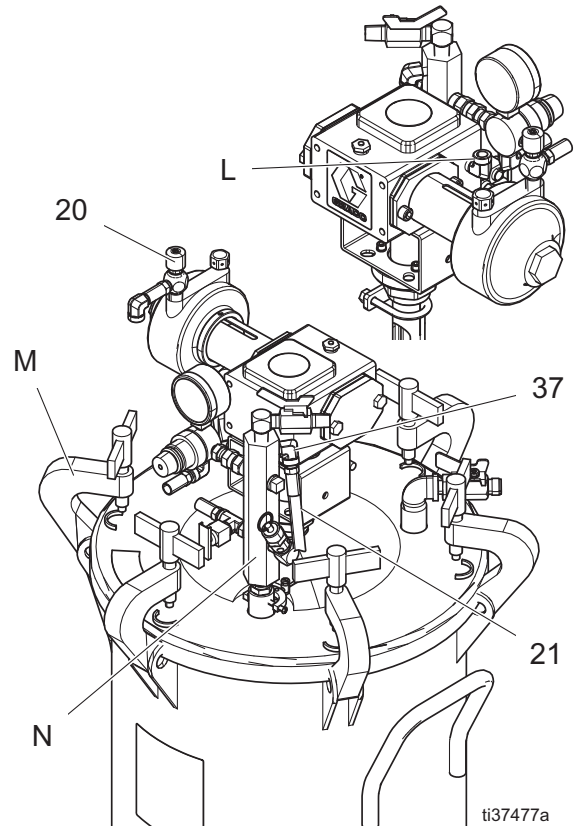

FIG. 4
- Refer to FIG. 4, page 10. Remove the plug from the air inlet manifold (N).
- Remove the elbow (37) from the end of the air hose (21) and attach to the pressure tank air inlet manifold (N).
- Connect the swivel end of the air hose (21) to the elbow (37).
- Remove the gear reducer oil level plug (L) from the street elbow and check the oil level in the reducer housing. The oil should never be higher than the oil level plug. If necessary, drain or add oil until the proper oil level is attained.
- Screw the oil level plug (L) back onto the street elbow (37).
14. Refer to FIG. 4, page 10. Connect the swivel end of the air hose (21) to the elbow (37).
15. Remove the gear reducer oil level plug (L) from the street elbow and check the oil level in the reducer housing. The oil should never be higher than the oil level plug. If necessary, drain or add oil until the proper oil level is attained. Screw the oil level plug back onto the street elbow.
2. Refer to FIG. 4. Screw on the filler cap (F), or if the tank cover was removed, place the agitator and cover on the pressure tank and secure the cover with the c-clamp handles (M).
4. To start the agitator, slowly open the needle valve (20). Adjust the speed of the agitator with the needle valve to about 40 to 60 rpm.
5. To stop the agitator, close the bleed-type air shutoff valve (SV) or close the needle valve (20).